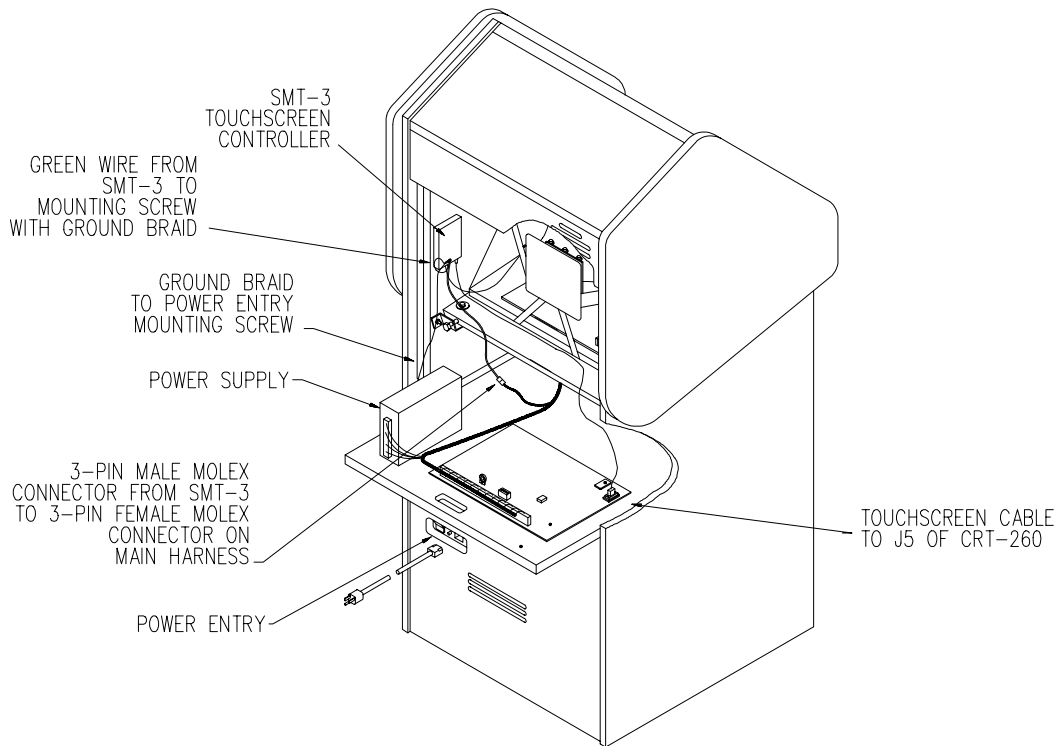

Figure 4 - Location of SMT-3 19" Upright
- Attach one end the ground braid to the same mounting screw and attach the other end to a mounting screw for the power entry. (19" Upright: run the ground braid down the side of the cabinet (as shown in Figure 4), so that it does not interfere with the movement of the PC shelf.)